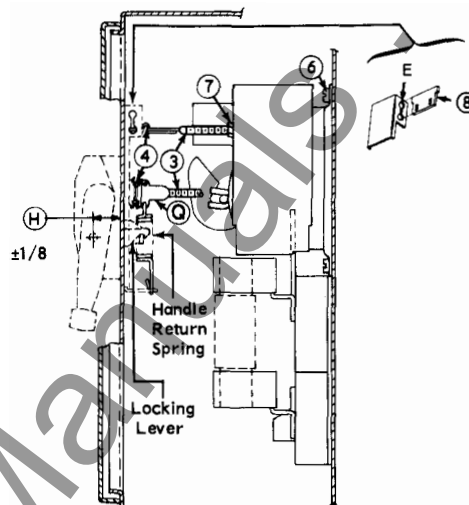
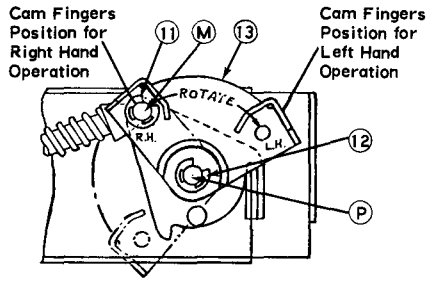

Figure 2
Figure 4
4. Locate vertical center line of operating handle from Instruction Sheet 30072-303-10, Fig. 2.
6. Install fuse base assemblies, item 2, (if supplied) with (4) ea. 1/4-20 x 1/2 screw, item 5,
8. Place nut, item 7, on stiffener rod and screw rod into stiffener bracket.
9. Insert stiffener coupling, item 8, thru side of handle stiffener bracket at point E, (See Fig. 2) and connect stiffener rod, item 5, to stiffener coupling with cotter pin, item 4,
10. Tighten nut, item 7, and bend cotter pin on stiffener rod.
- A. Place operating handle on ON position (OFF position for left hand). Connect operating rod to handle linkage with cotter pin, item 4, at point Q. See Fig. 2. Do not bend cotter pin.
- C. When adjustment is attained, bend cotter pin and attach handle return spring from Operating Handle Kit. See Fig. 2 and Instruction Sheet 30072-303-10, Fig. 4.